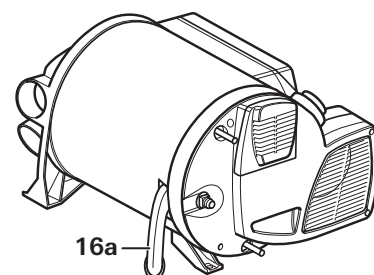

Fig. 3
- Do not place a plug or reducing coupling in the discharge pipe (Fig. 3 - 16a) of the P&T relief valve.